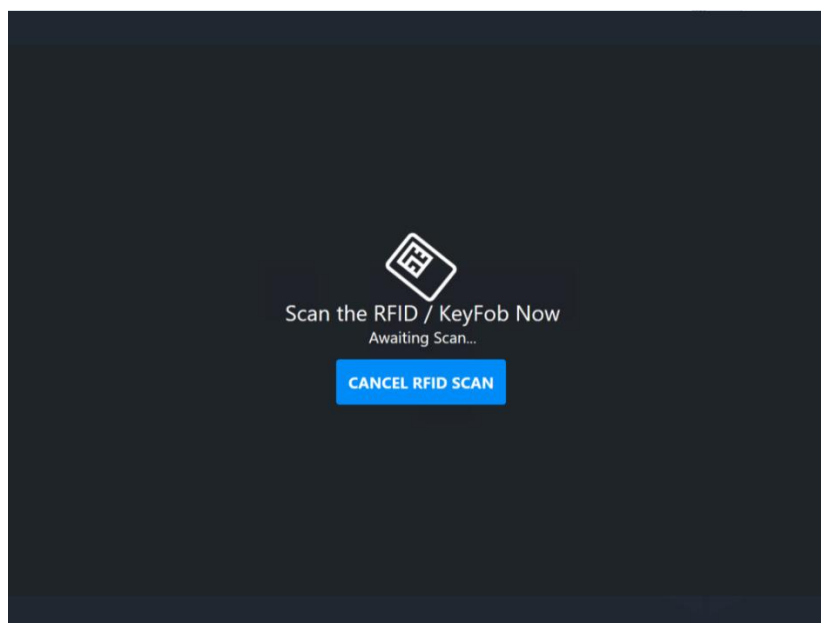

Figure 5: Scan the Key Fob
- Tap **RFID (Key Fob) Inactive Tap to assign new** to assign the Key Fob, see Figure 5.